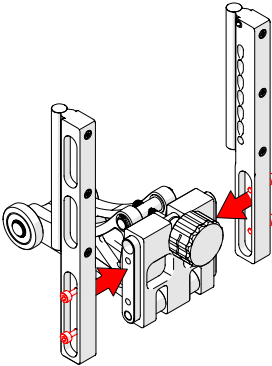

Fig. 13 - Attach clamp arms
4. Place the clamp arms onto the center idler section and secure them in place with the four captured screws (Fig. 13).